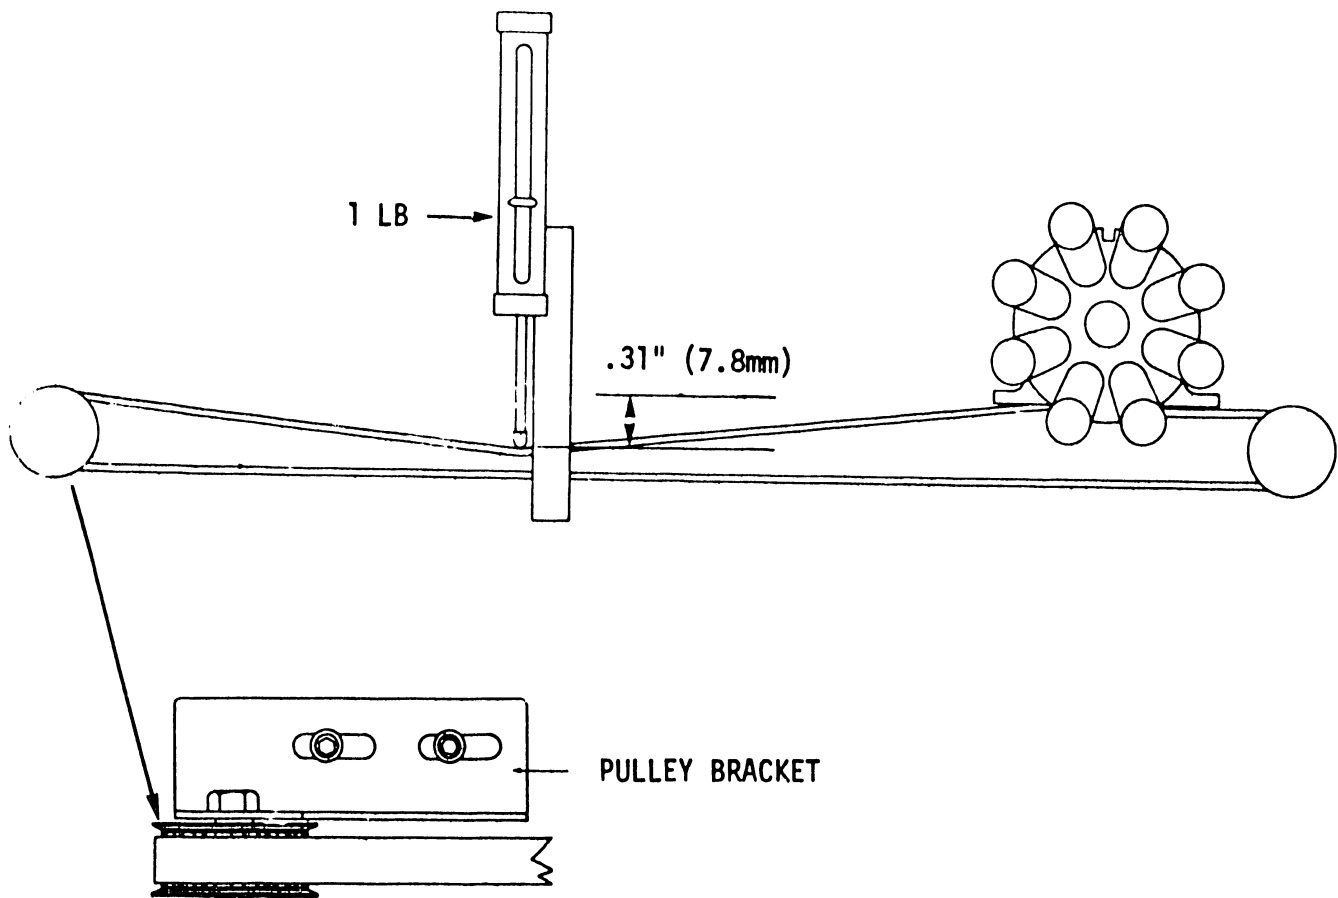

FIGURE 5-4 MAIN DRIVE BELT ADJUSTMENT
- 2) Using a spring gauge and scale, deflect the middle of the belt .31" or 5/16" (7.9 mm). The gauge should read 1 lb \pm 2 oz. (Figure 5-4).